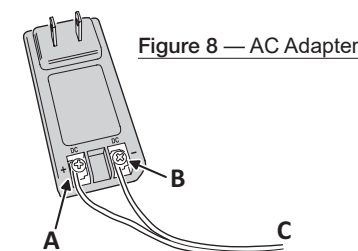

Figure 8 — AC Adapter
- Left Terminal 14 VDC (+). See A in Fig. 8.
- Right Terminal 14 VDC (-). See B in Fig. 8.
NOTE: The power wire (see C in Fig. 8) goes to the keypad.